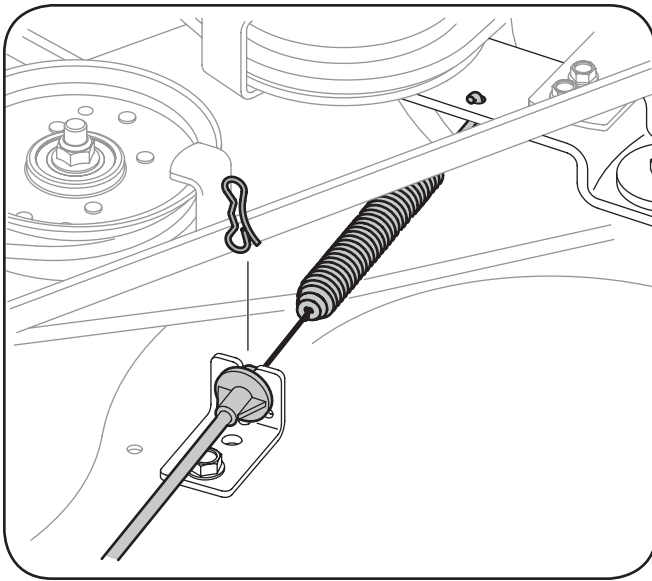

Figure 7-4
- Carefully remove the PTO cable from the rear of the cutting deck by removing the hair pin clip which secures it. Remove the spring from the deck idler bracket. See Fig. 7-4.